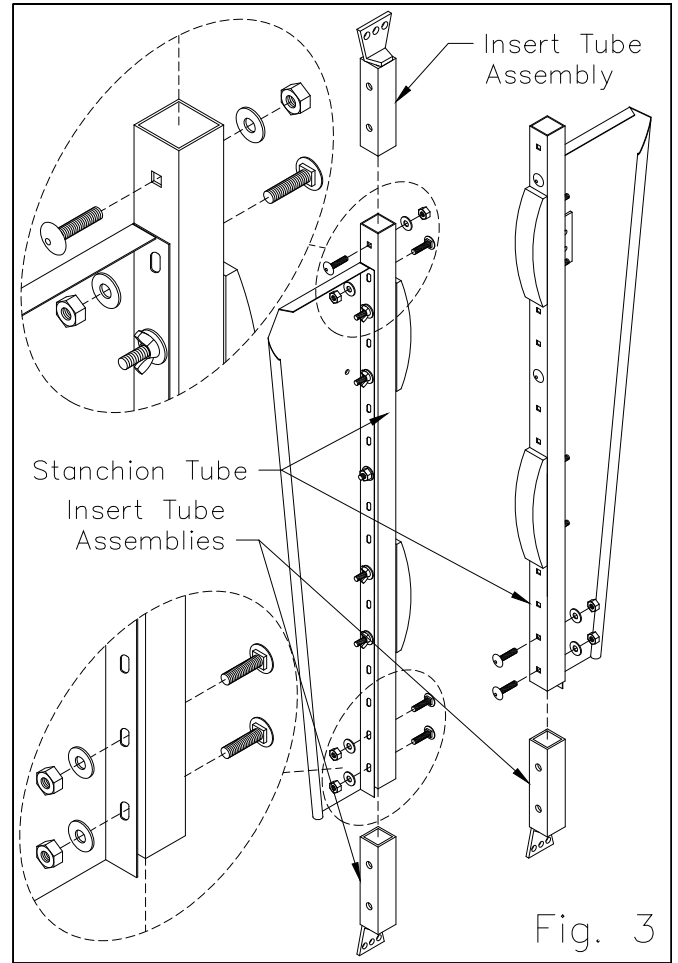

Fig. 3
Slide the Insert Tube Assemblies into the ends of the Stanchion Tubes as shown in figure 3. Secure them in place with (6) 1/2" x 3 1/2" carriage bolts, washers and lock nuts as shown